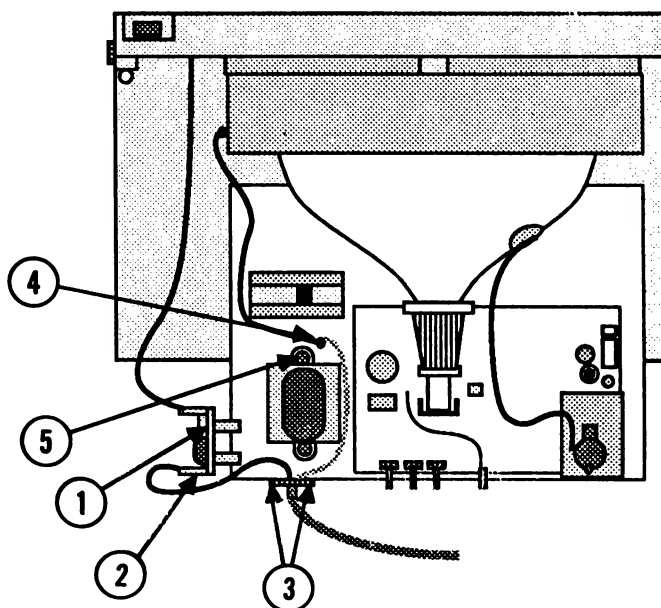

**FIGURE 1**
3. Locate the line filter board (Figure 1, #1) and AC IN connector (Figure 1, #2).
- b) Remove the two screws (Figure 1, #3) that secure the power cord bracket to the rear of the chassis.
- a) Holding the hex nut steady with the long-nose pliers, remove the main chassis ground screw (Figure 1, #4) that secures the black bezel ground wire to the floor of the metal chassis.
- b) Attach the tab of the black bezel ground wire to an alternate site—the screw and nut (Figure 1, #5) that secure the transformer to the metal chassis.
- b) Replace the two screws (Figure 1, #3) that secure the power cord bracket to the rear of the chassis.
- d) Position the tab of the power cord green ground wire at the main chassis ground site (Figure 1, #4) and replace the screw and nut.